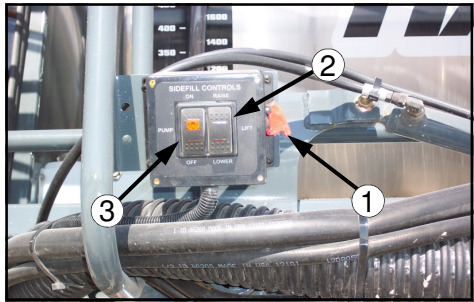

FIG 4.34-1
INDUCTOR OPERATION- With the engine running and the parking brake set, flip the lock switch up (fig.4.34-1, item 1). Lower the inductor assembly with the inductor control box switch (fig. 4.34-1, item 2). If filling with the suck-on attachment, leave the engine running. If filling with the push-on attachment, turn the engine off.
*To activate “suck-on” pump, flip the inductor control switch up (fig. 4.34-1, item 3). This will start the pump. Flip switch down when filling is complete.